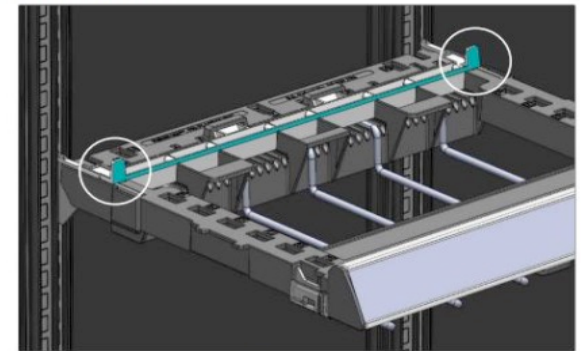

Figure 5
5. Ensure the Tray Locking Device is in proper position. Now placing fingers on the surface (hi-lighted) press forward. The device will travel slightly forward into final position (See Figure 5).